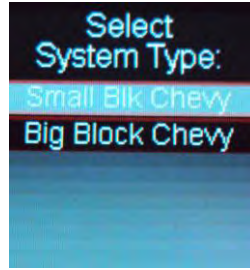

Figure 6
7. If you selected "Holley MPFI", select whether your engine is a Small Block or Big Block Chevy (Fig 6). Proceed to step 9.